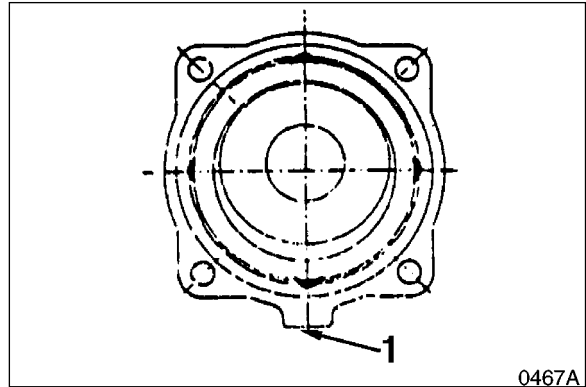

Figure 38 \
- Turn motor so that front cover side (304) is down. Put separator plates (743) and friction plates (742) back in same order in which they were removed. There are three separator plates (743) and two friction plates (742), which should be positioned as shown in drawing below, with clearance towards side of casing with brake valve (1, Figure 38).